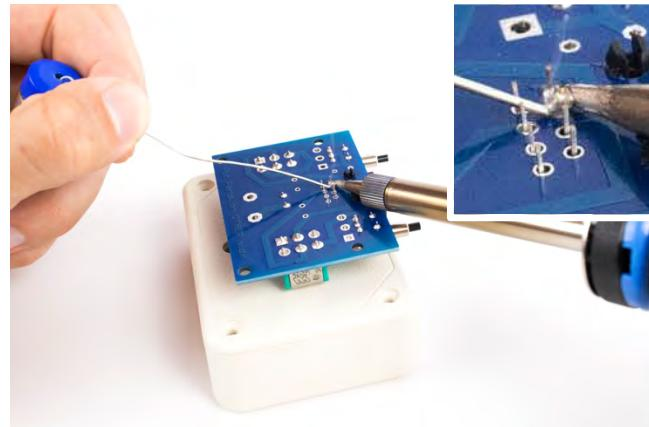

Figure 20
- Turn the assembly over and place it across the open top of the control box. (Figure 20)
- Solder the eight terminals. To avoid bridges between these closely spaced connections, place the soldering tip on the outside of the terminal rows, not between the terminals, and do not use too much solder. (Figure 20)